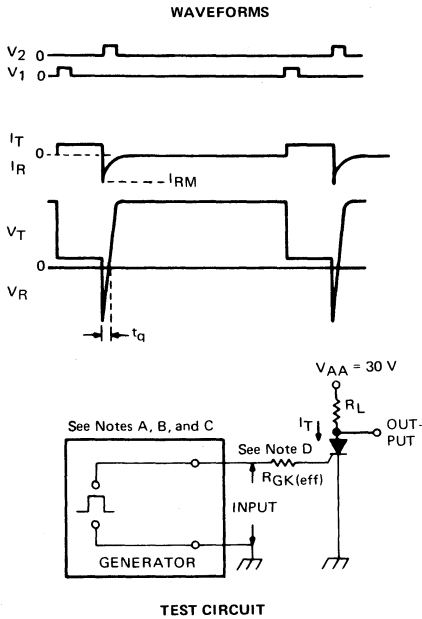

FIGURE 1 – GATE-CONTROLLED TURN-ON TIME
- B. The input waveform of Figure 1 has the following characteristics:  $t_r \leq 40\text{ ns}$ ,  $t_w \geq 20\ \mu\text{s}$ .